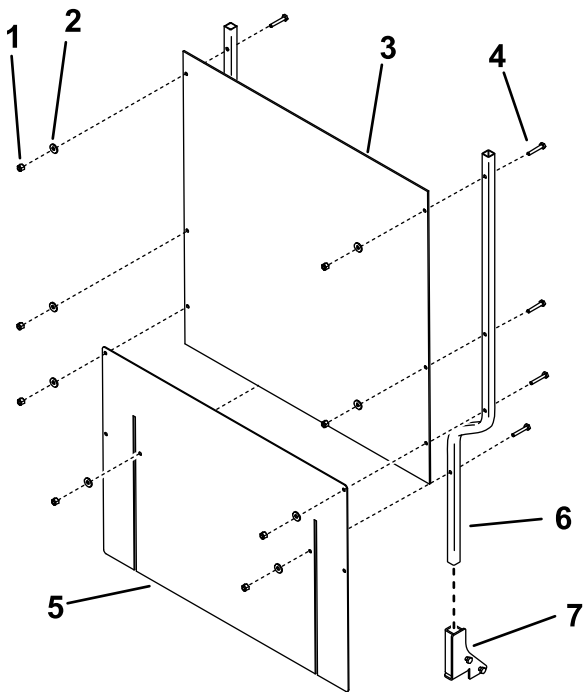

Figure 9
1. Slide the shield supports into the pockets in the shield brackets on the traction unit (Figure 8 or Figure 9).
2. Assemble the shield and flexible skirt to the shield supports as illustrated in Figure 8 or Figure 9, using 8 bolts (1/4 x 1-1/2 inch), 8 washers, and 8 locknuts (1/4 inch).